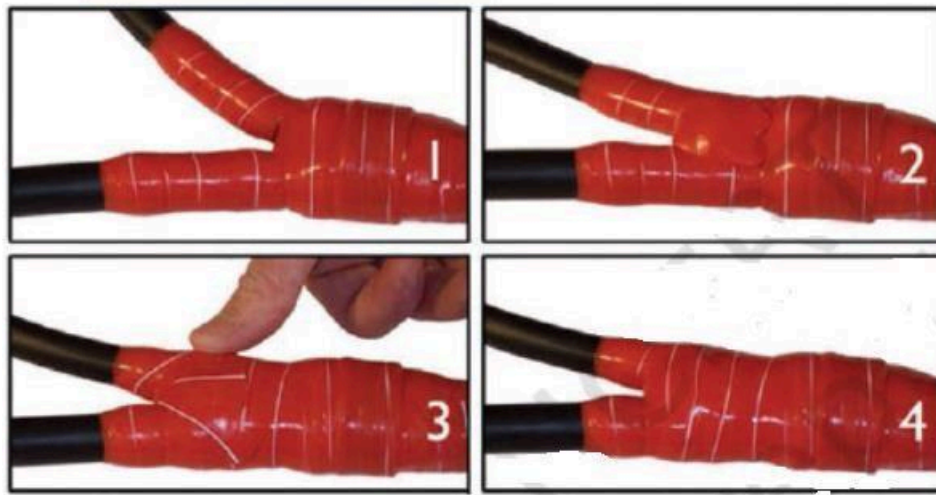

Fig. 10 Restoring the over sheath on a branch joint
3. Put the two cables together and bind the main and branch tightly over the filling. Finally, wrap the crotch while pulling the branch away from the main cable (Fig. 10).